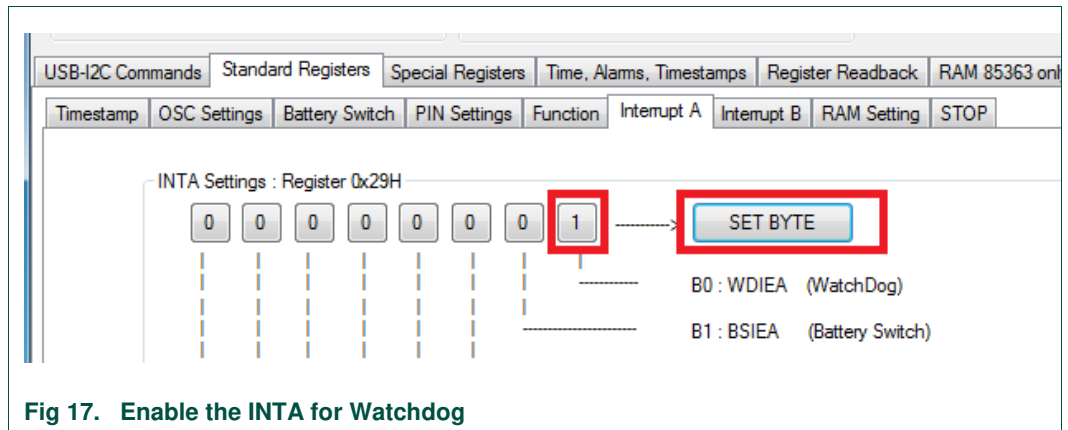

Fig 17. Enable the INTA for Watchdog
3. Enable *INTA* for Watchdog (pulse at each time countdown occurs) (see Fig 17).